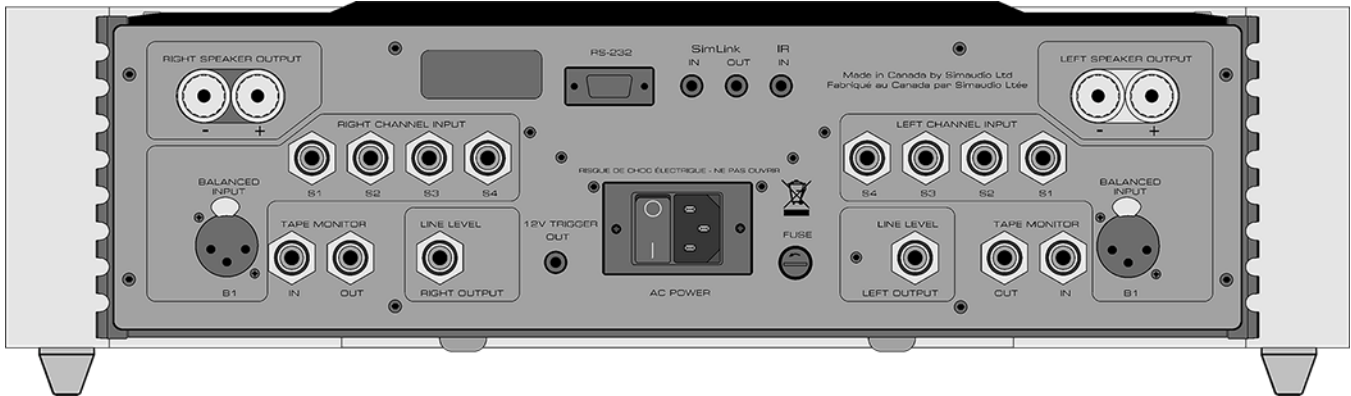

Figure 2: Rear panel of MOON 700i Integrated Amplifier
The rear panel of the **MOON 700i** dual-mono integrated amplifier will look similar to Figure 2 (above). There are two rows of connectors; the top row contains one pair of heavy duty gold-plated speaker binding posts for each channel to connect to your loudspeakers. This integrated amplifier is equipped with full-function bi-directional RS-232 port control and status for custom integration or automation. This is located in the middle section and uses a DB9 connector. Immediately to the right of the RS-232 port are two (2) “SimLink” connectors labeled “in” and “out” on 1/8” mini jacks. Please refer to the next section entitled SimLink for more details. As well, there’s a 1/8” mini-jack input for use with aftermarket infrared remote control receivers.